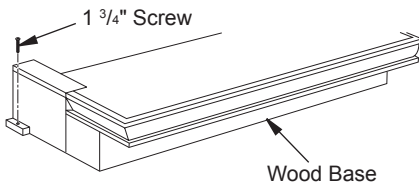

Figure 14 - Attaching Wood Base to Floor
10. Attach wood base to floor with two 1 3/4" black screws provided (see Figure 14, page 13). If the floor is concrete use anchor method (see *Attaching Wood Base to Solid Floor*, page 14, page 13).